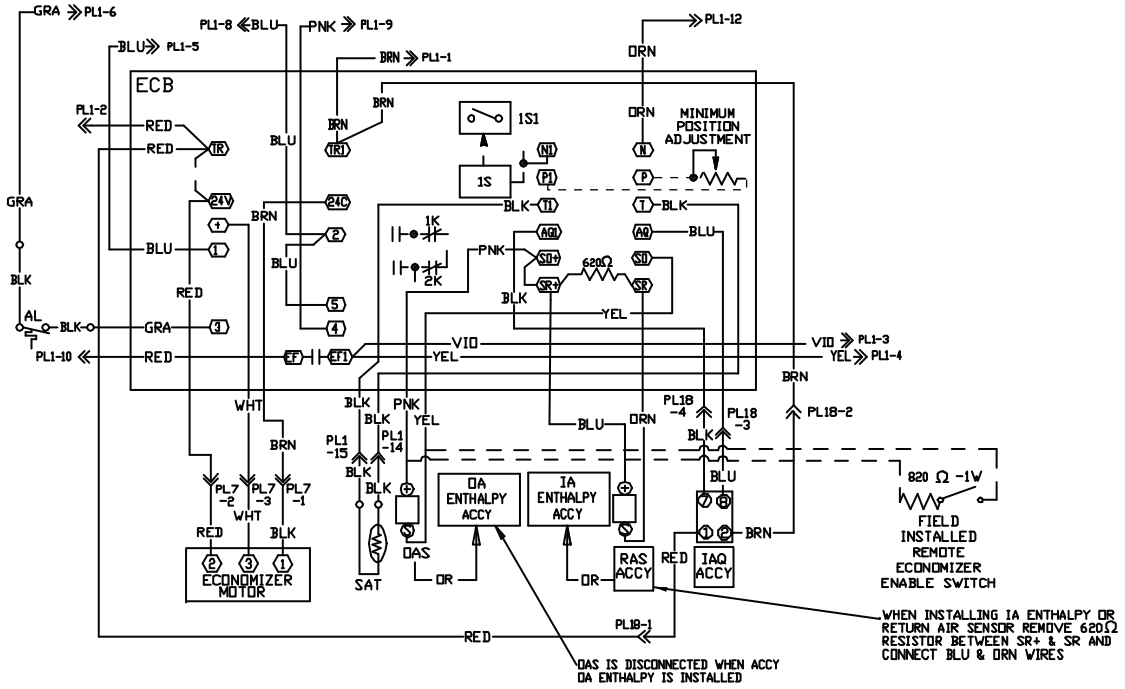

Fig. 25 - EconoMiSer IV Wiring
For differential dry bulb control the standard outdoor dry bulb sensor is used in conjunction with an additional accessory dry bulb sensor (part number CRTEMPSN002A00). The accessory sensor must be mounted in the return airstream. Wiring is provided in the EconoMi\$er IV wiring harness. (See Fig. 25.)
For enthalpy control, accessory enthalpy sensor (part number HH57AC078) is required. Replace the standard outdoor dry bulb temperature sensor with the accessory enthalpy sensor in the same mounting location. When the outdoor air enthalpy rises above the outdoor enthalpy changeover set point, the outdoor-air damper moves to its minimum position. The outdoor enthalpy changeover set point is set with the outdoor enthalpy set point potentiometer on the EconoMi\$er IV controller. The set points are A, B, C, and D. (See Fig. 26.) The factory-installed 620-ohm jumper must be in place across terminals SR and + on the EconoMi\$er IV controller. (See Fig. 25.)
Replace the standard outside air dry bulb temperature sensor with the accessory enthalpy sensor in the same mounting location. Mount the return air enthalpy sensor in the return air duct. Wiring is provided in the EconoMi\$er IV wiring harness. (See Fig. 25.) The outdoor enthalpy changeover set point is set with the outdoor enthalpy set point potentiometer on the EconoMi\$er IV controller. When using this mode of changeover control, turn the enthalpy setpoint potentiometer fully clockwise to the D setting. (See Fig. 27.)
3. Ensure that the factory-installed jumper is in place across terminals P and P1. If remote damper positioning is being used, make sure that the terminals are wired according to Fig. 25 and that the minimum position potentiometer is turned fully clockwise.
To control the minimum damper position remotely, remove the factory-installed jumper on the P and P1 terminals on the EconoMi\$er IV controller. Wire the field-supplied potentiometer to the P and P1 terminals on the EconoMi\$er IV controller. (See Fig. 25.)